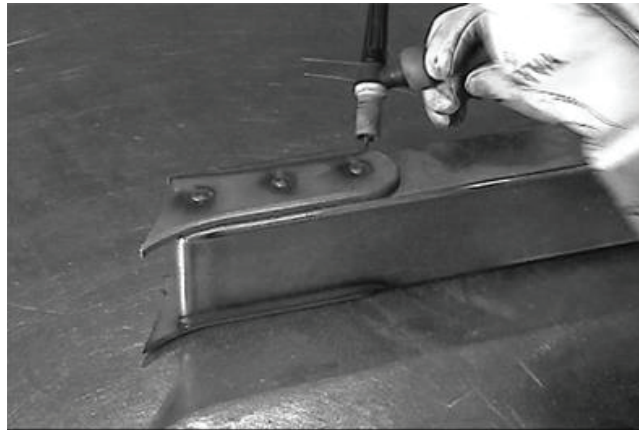

Figure 11
16. Once the brackets are positioned as desired, the inside and outside brackets can be tack welded to the connector. **DO NOT WELD THE BRACKETS TO THE SUBFRAME AT THIS TIME.** Remove the connector and bench weld the brackets to the connector. These brackets should be welded around the entire perimeter and plug welded in the holes in the bracket (Figure 11).